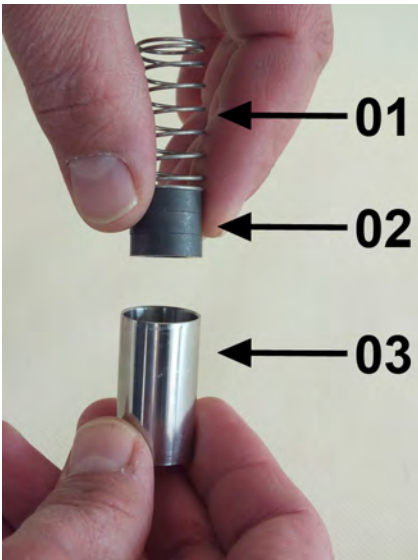

Fig. 43: inner parts
4. → Insert the spring (Fig. 43/01) and magnets (Fig. 43/02) into the float (Fig. 43/03), observing the magnetic polarity (north pole toward the outlet side).